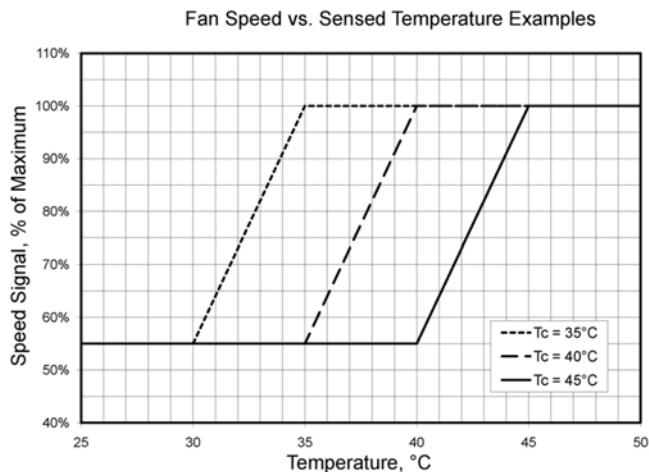

Figure 1.0: Fan speed signal vs. sensor temperature (5deg slope).
1) Temperature Based Fan Control: The speed of all fans is proportional to the temperature sensor connected to header J12, or the board mounted sensor. Figure 1.0 shows fan speed as a function of sensed temperature. I2C Bus register 0xF9 is used to set the control temperature, T_c (The control temperature is the temperature at which the full speed control signal is applied to the fans). Temperature sensor status and temperature readings are available on the I2C Bus.